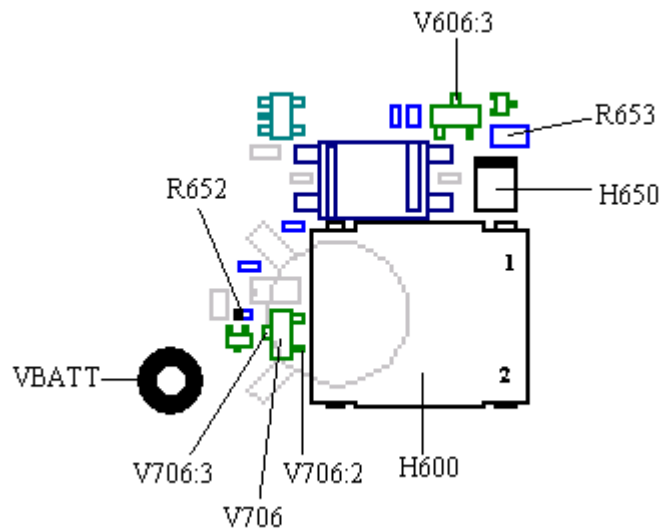
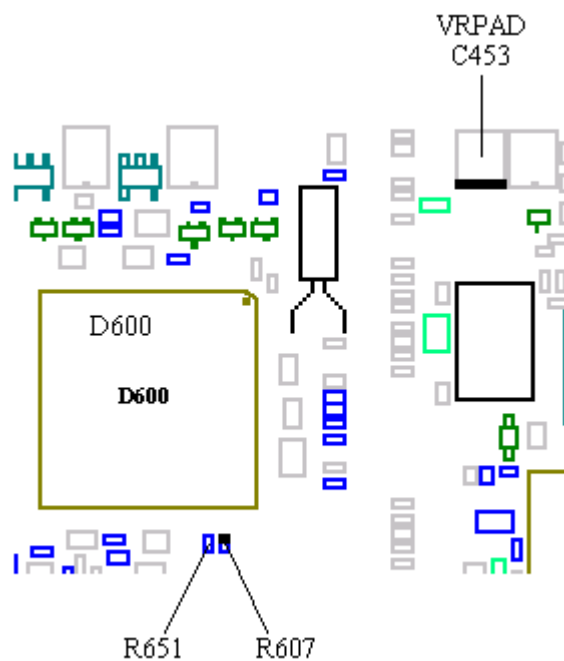

Fig. 9.2
Fig. 9.3
If the fault remains, disassemble the phone. Give the board power and start it up. Measure the voltage at H600 pad 1 (~3.3V, fig. 9.2).
- If the voltage is missing at H600 pad 1, measure VRPAD (~3.8V) at V706 pad 2 (class A, fig. 9.2).
- * If the voltage at V706 pad 2 is missing, check if VRPAD is at C453 (fig. 9.3).
* If VRPAD at V706 pad 2 is correct, measure the resistance from VBATT to V706 pad 3 (~4.7 ohms, fig. 9.2)
* If the resistance is too high, replace R652 (class A, fig. 9.2).
Measure the resistance from H600 pad 2 to V606 pad 3 (10 ohms, fig. 9.2).
- If the resistance is too high replace R653 (class A, fig. 9.2).
- If the resistance is correct, check the soldering at D600 pad 91 (fig. 9.3).
- * If the soldering is correct, replace R651 (class A, fig. 9.3) and V606 (class A, fig. 9.2).
- * If that doesn't help, replace D600 (class B, fig. 9.3).
- If none of the LEDs H651-H654/H655-H660 (fig. 9.1 and 9.6) are lit, measure the voltage at the marked of R607 (~3.1V, fig. 9.3). Before you measure you have to press a key on the phone to make the processor set the LED3K signal high for about 10 seconds.
- * If the voltage is missing, check the soldering at D600 pin 92 (fig. 9.3).
- If none of the LEDs H651-H654/H655-H660 (fig. 9.1 and 9.6) are lit, measure the voltage at the marked side of R607 (~3.1V, fig. 9.3). Before you measure you have to press a key on the phone to make the processor set the LED3K signal high for about 10 seconds.
Measure the voltage at H600 pad 1 (~3.3V, fig. 9.2).
- * If the VRPAD voltage at V706 pad 2 is correct, measure the resistance from VBATT to V706 pad 3 (~4.7 ohms, fig. 9.2).
- * If the resistance is too high, replace R652 (class A, fig. 9.2).
* If VRPAD at V706 pad 2 is correct, measure the resistance from VBATT to V706 pad 3 (~4.7 ohms, fig. 9.2).
Measure VRPAD (~3.8V) at v706 pin 2 (class A, fig. 9.2).
- If the voltage at V706 pin 2 is missing, check if there is voltage at C453 (~3.8V, fig. 9.3).